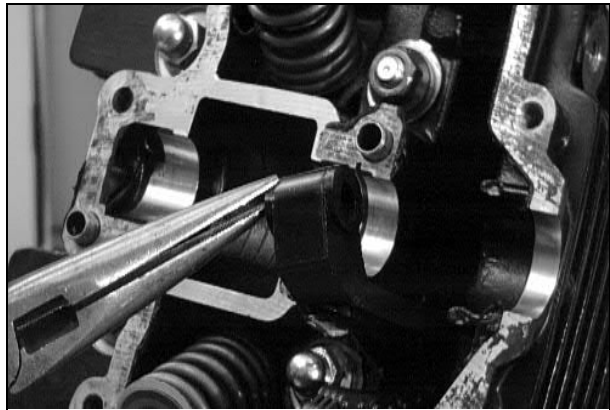

Fig. 42
7. Using a pair of needle-nose pliers, remove the chain tensioner pad, (Fig. 42).